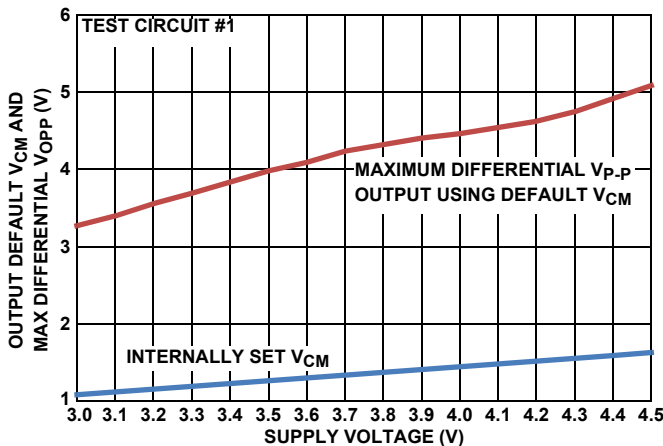
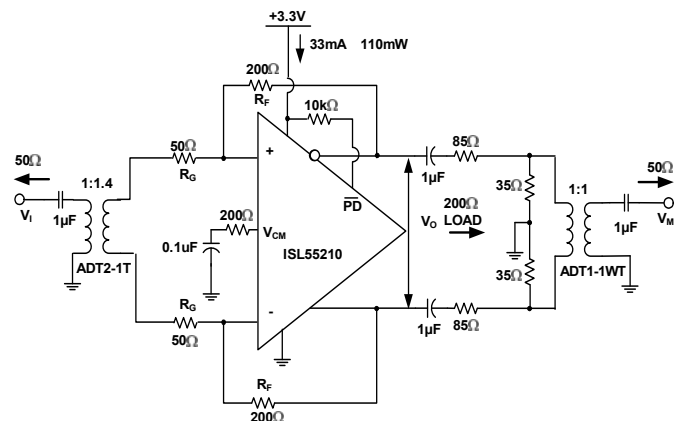

FIGURE 26. DEFAULT V_{CM} AND MAX V_{OPP} vs SUPPLY VOLTAGE
FIGURE 28. TEST CIRCUIT #1
The circuit of Figure 28 forms a starting point for many of the characterization curves for the ISL55210. Since most lab sources and measurement devices are single-ended, this circuit converts to differential at the input through a wideband transformer and would also be a typical application circuit coming from a single ended source. Assuming the source is a 50Ω impedance, the R_G resistors are set to provide both the input termination and the gain. Since the inverting summing nodes act as virtual ground points for AC signal analysis, the total termination impedance across the input transformer secondary will be $2 * R_G$. Setting this equal to $n^2 * R_S$ will give a matched input impedance inside the bandwidth of the transformer (where "n" is the turns ratio). The amplifier gain is then set by adjusting the feedback resistors
Working with a transformer coupled input as shown in Figure 28, or with two DC blocking caps from a differential source, means the output common mode voltage set by either the default internal V_{CM} setting, or a voltage applied to the V_{CM} control pin, will also appear as the input common mode voltage. This provides a very easy way to control the ISL55210 I/O common mode operating voltages for an AC coupled signal path. The internal common mode loop holds the output pins to V_{CM} and, since there is no DC path for an I_{CM} current back towards the input in Figure 28, that V_{CM} setting will also appear as the input common mode voltage. It is useful, for this reason, to leave any input transformer secondary centertap unconnected. The internally set V_{CM} voltage is referenced from the negative supply pin. With a single 3.3V supply, it is very close to 1.2V but will change with total supply voltage across the device as shown in Figure 26.
3.6V_{P-P} output capability. The V_{P-P} reported in Figure 26 is an asymmetrically clipped maximum swing. Going 10% above this 3.7V target to 4.1V will be within the recommended operating range and give some tolerancing headroom that would also suggest the V_{CM} voltage be moved up to approximately 1.5V. This coincides with the default output V_{CM} from Figure 26. Operating at +4.1V single supply in a Figure 28 type configuration will give the maximum linear available output swing of 3.6V_{P-P}.
The differential inputs of the ISL55210 also have operating range limits relative to the supply voltages. Operating in an AC coupled circuit like Figure 28 will produce an input common mode voltage equal to the outputs. The inputs can operate with full linearity with this V_{CM} voltage down to 1.1V above the GND connection (or -V_S supply). On the default 1.2V output V_{CM} on +3.3V supplies this gives a 100mV guardband on the input V_{CM} voltages. Overriding the default V_{CM} by applying a control voltage to the V_{CM} pin should be done with care in going towards the negative supply due to this limit. On the + side, the maximum V_{CM} above the -V_S supply is 2V so there is more room to move the output V_{CM} up than down from the default value.
Test circuit #1 (Figure 28) is implemented on an Evaluation Module Board available from Intersil. This board includes a number of optional features that are not populated as the board is delivered. The full EVM board circuit is shown in Figure 38 where unloaded (optional) elements are shown in green.